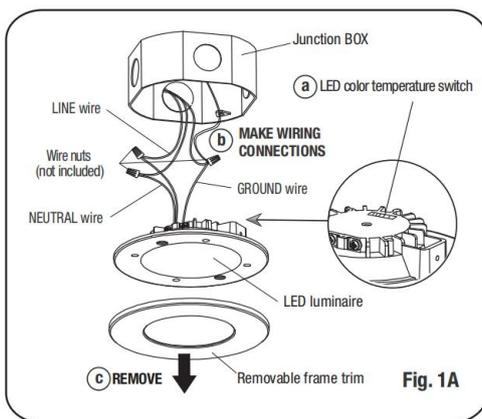

Fig. 1A
1. Select the appropriate LED color temperature by using the switch on the top of the luminaire (Fig. 1A, step "a" detail).
2. Connect the wiring from the luminaire to the electrical supply wires as follows (wire nuts not included): Ground wire (green) connects to the ground wire. LINE wire (black) connects to line power supply wire. NEUTRAL wire (white) connects to neutral wire (Fig. 1 & Fig. 1A, step "b").
3. Remove the frame trim by detaching it (magnetic system) as shown in Fig.1A, step "c".